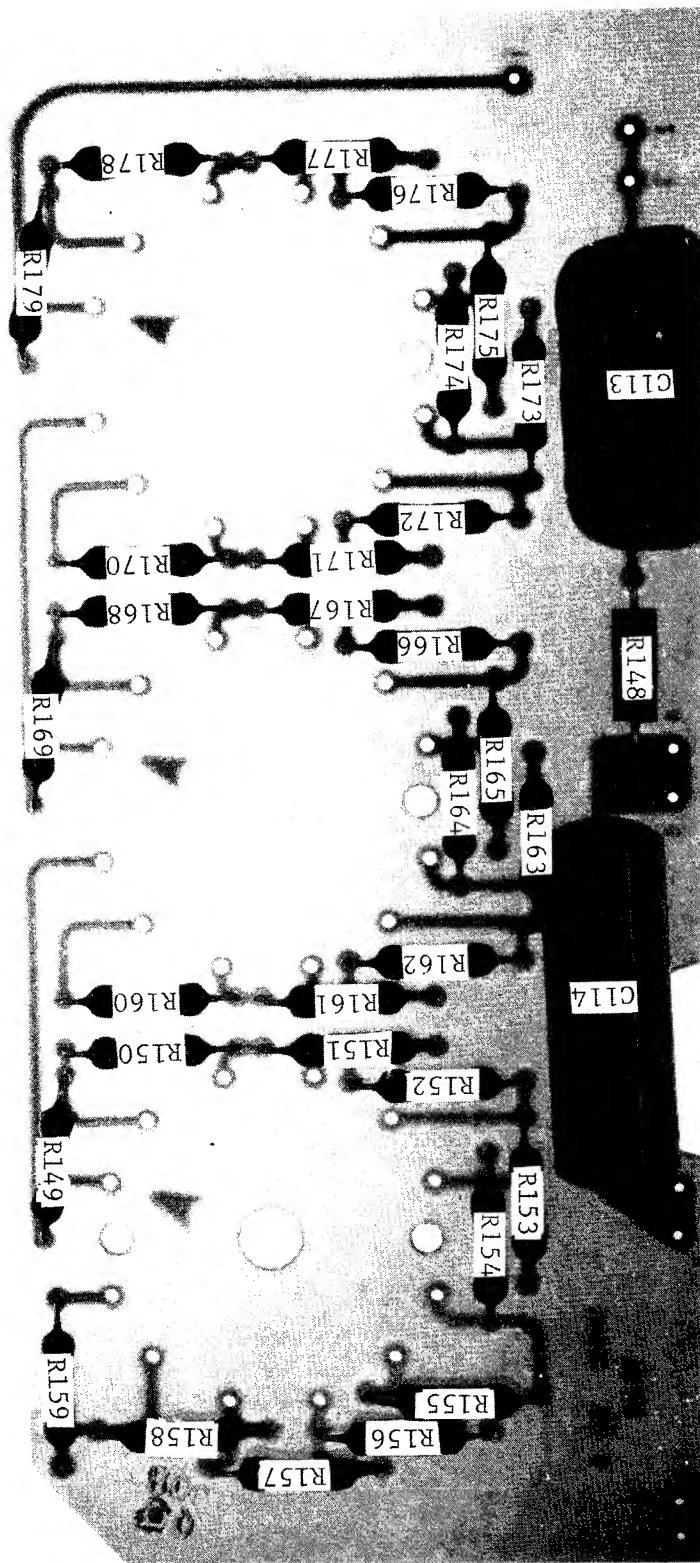
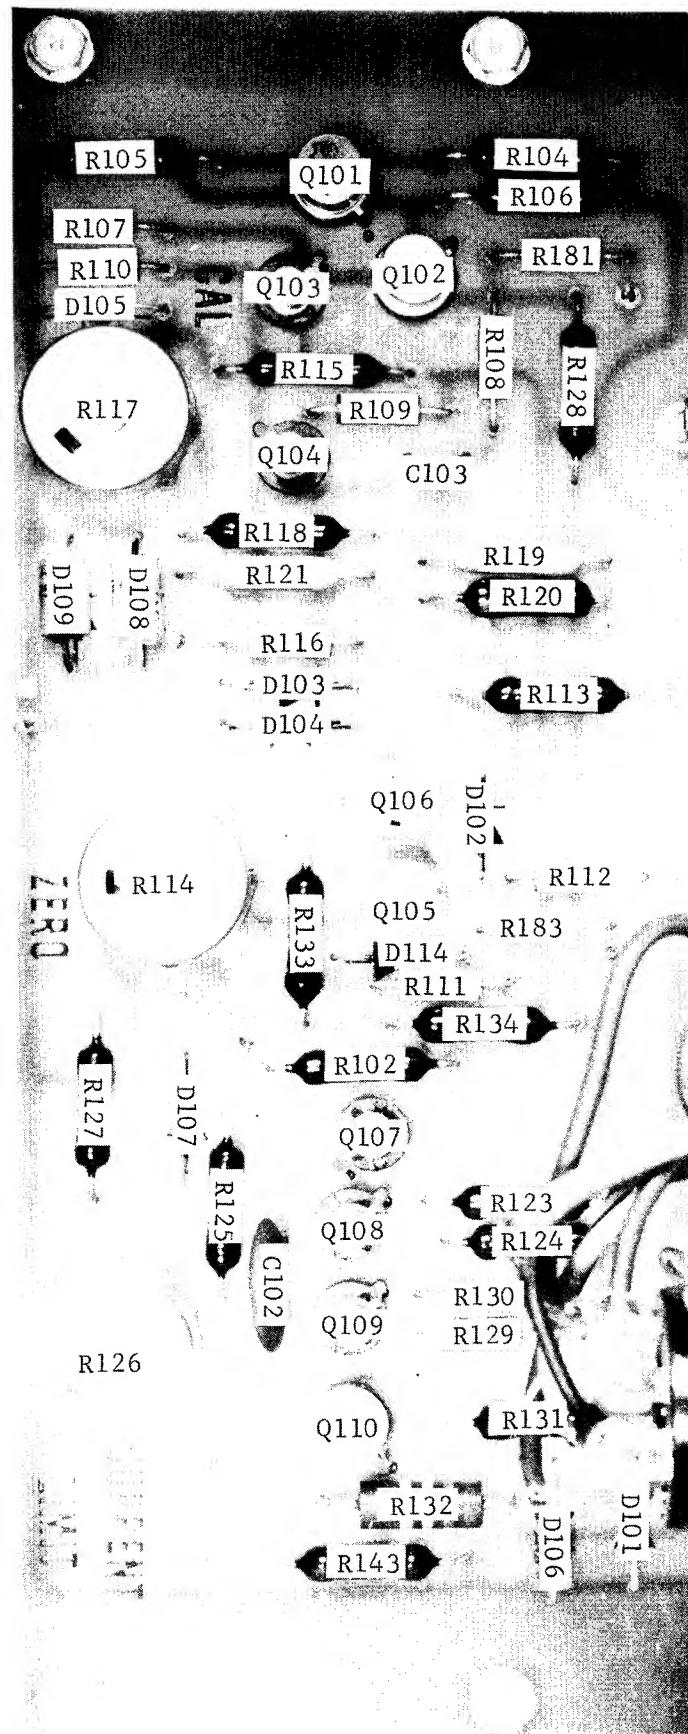

FIGURE 9. Chassis, Top View.
FIGURE 11. Component Layout, PG-117 (Part 1).
a. Removing tube V101 (Figure 9) from the socket unloads the high voltage and filament winding of the transformer.
a. To troubleshoot the voltage control amplifier, first remove the high voltage. Turn the ON Switch off. Remove tube V101 (Figure 9) from its socket and disconnect the plate cap. Make sure the plate cap is clear of all surrounding components. Place a shorting jumper across either diode D108 or D109 (Figure 11).
c. Connect the Model 153 between pin 5 of tube V101 and ground. Turn the Model 240A on. Adjust the ZERO potentiometer R114 (Figure 11). Turning the potentiometer should swing the voltage from approximately 0 to -36 volts. Set the potentiometer for -20 volts.
b. Set the front panel controls as in paragraph 4-7, b. Since there is no overload, there should be a reverse voltage across diode D107 (Figure 11). The amplifier should be in its normal mode.
b. In overload condition, the voltage between the emitter and collector of transistor Q110 (Figure 11) should be more than -105 volts. If it is and the lamp will not light, then the lamp is defective.
c. If -105 volts is not present, then either transistor Q109 or Q110 (Figure 11) or the associated circuitry is defective. Measure the voltages within the circuits to locate the trouble.
Connect the Model 153 to the Model 240A OUTPUT Receptacle and set it initially to its 10-millivolt range. Adjust the ZERO potentiometer, R114 (Figure 11), for zero output ± 1 millivolt.
b. The Model 662 should read the Model 240A output to $\pm 0.5\%$. If necessary, adjust the output using the CAL potentiometer R117 (Figure 11). If the potentiometer does not have sufficient range, add or remove jumpers across resistors R119, R120 and R121 (see schematic diagram 19197D).
c. For a quick check, measure the output voltage at several different settings. Adjust the CAL potentiometer R117 (Figure 11) for minimum percentage deviation from the dial setting.
Adjust the CURRENT LIMIT potentiometer R126 (Figure 11) until the output current is 12.5 milliamperes ± 0.2 millampere.